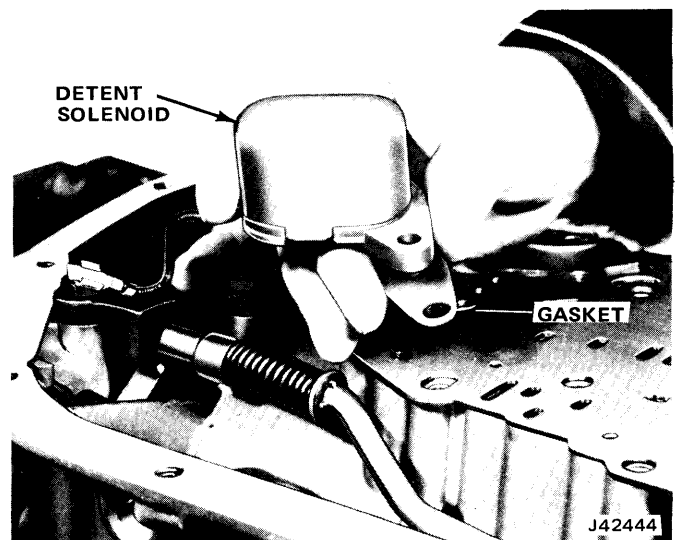

Fig. 7-15 Removing—Installing Detent Solenoid and Gasket
- (1) Remove detent solenoid and metal gasket. Discard gasket (fig. 7-15).